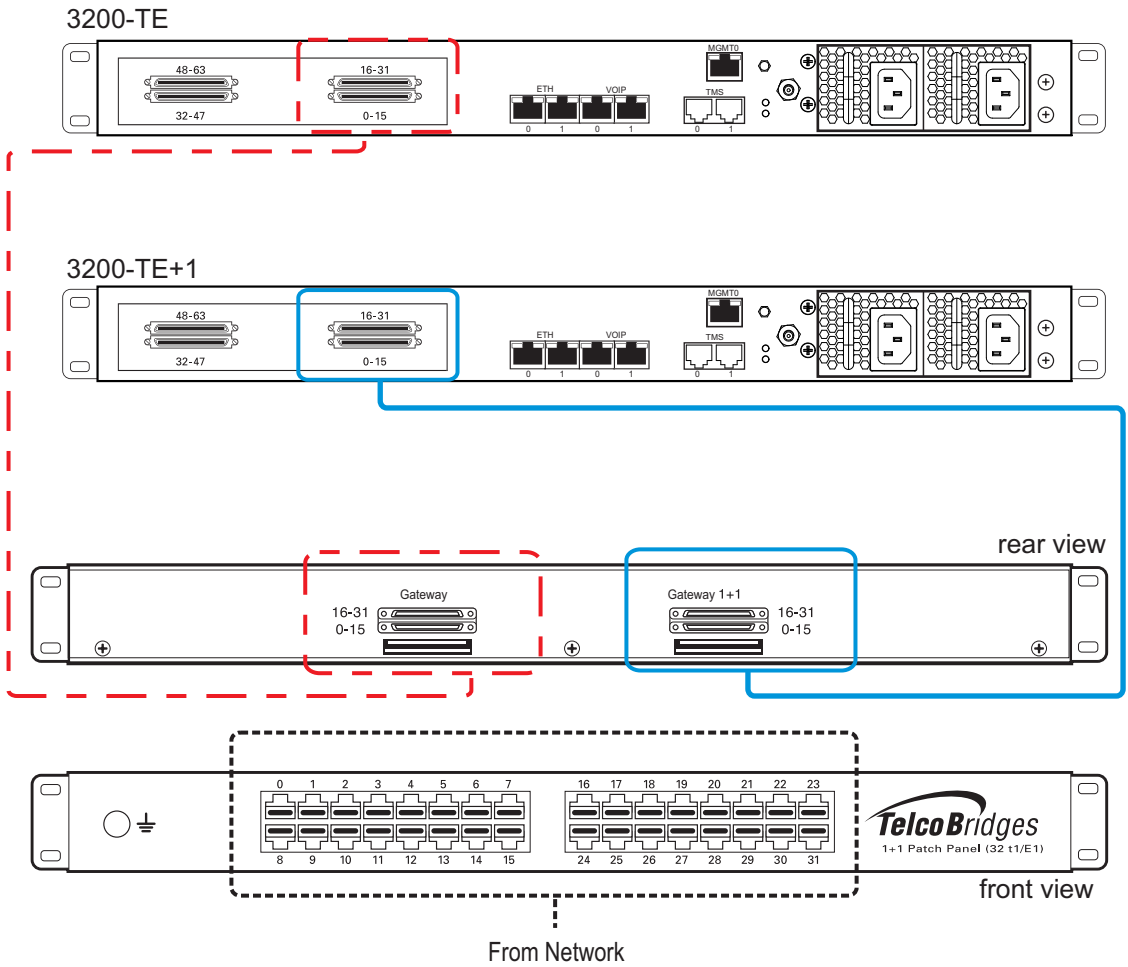

Figure 2.13 3200-TE and 3200-TE+1 connecting to the TDM 1+1 32/T1/E1 1+1 patch panel
1. Connect each T1/E1 line from the network section of the 1+1 patch panel to the remote equipment. See Figure 2.13 on page 32.